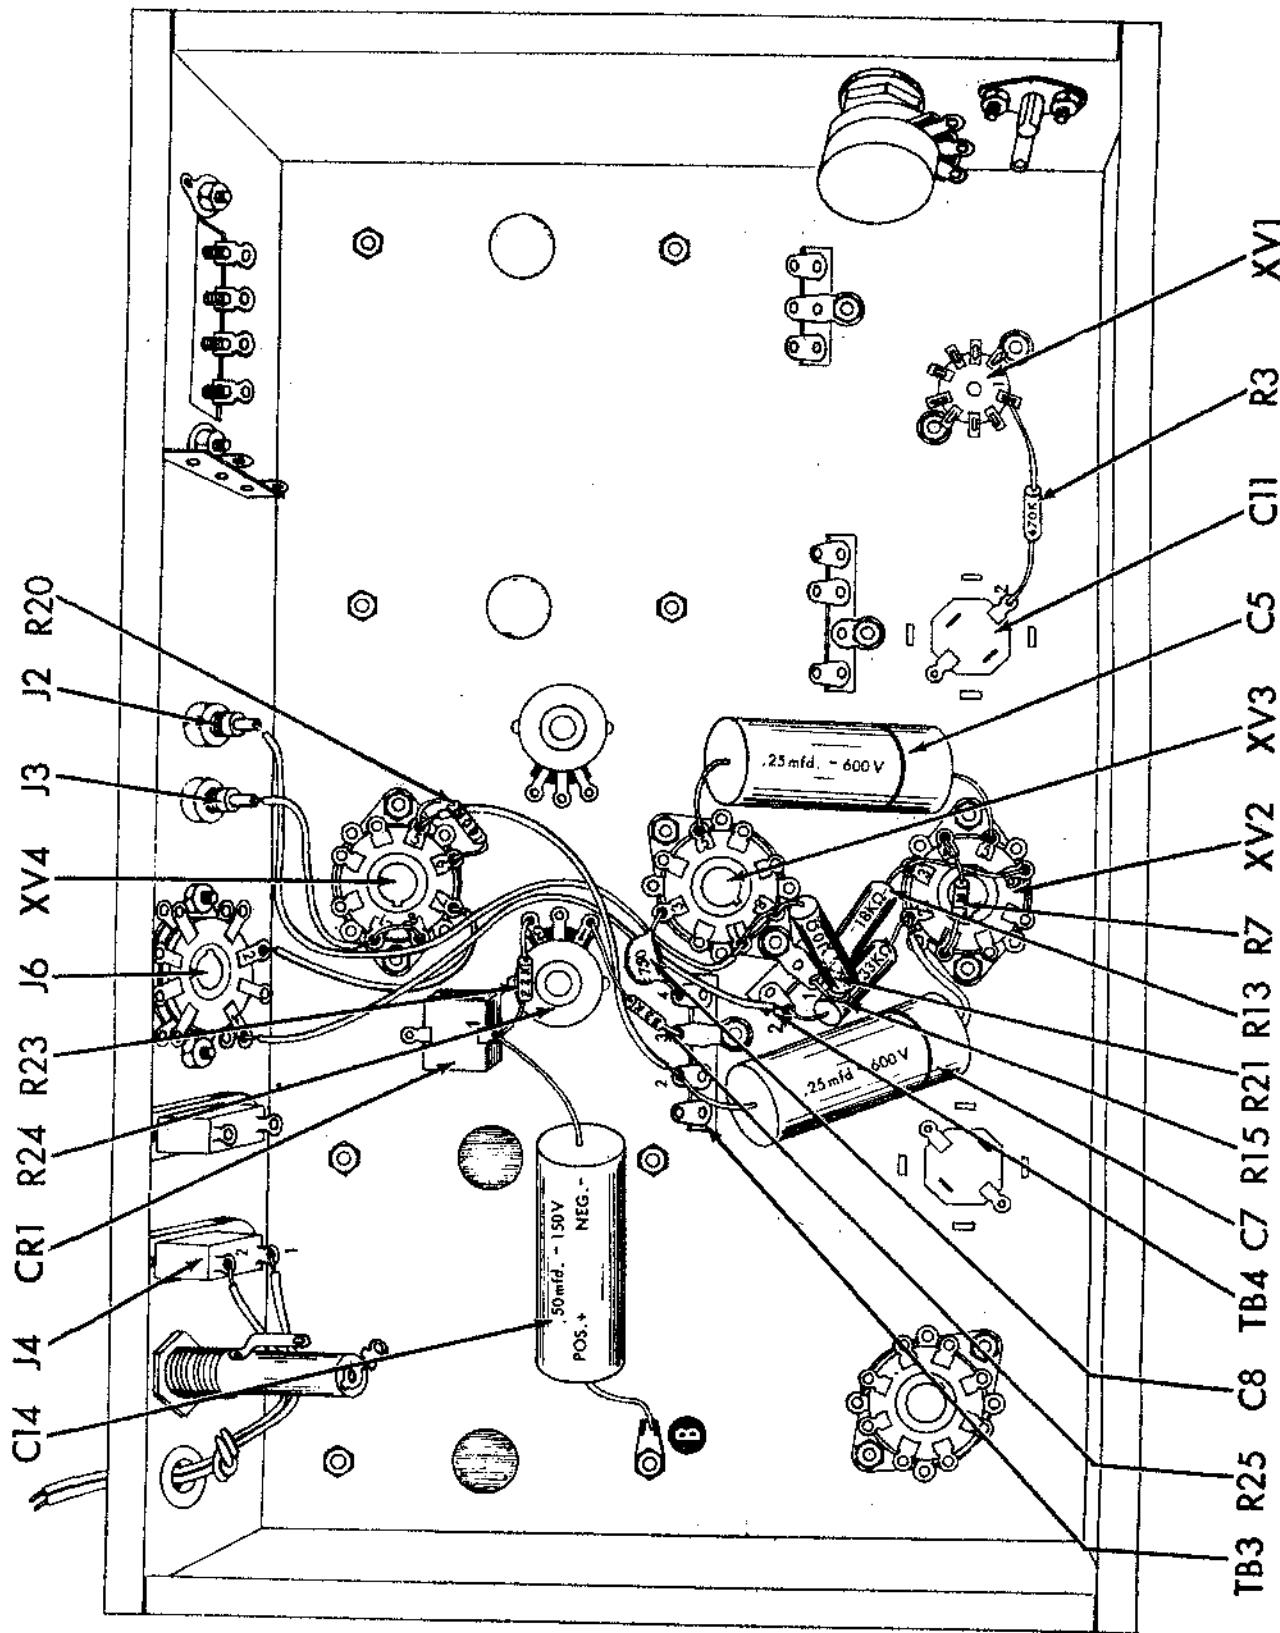

Fig. 5
1. () Fig. 5. Connect a 470K Ω (yellow, violet, yellow, gold) 5% resistor, R3, from XV1-1 (S) to C11-2 (S). Cut leads to 1". Use 3/4" spaghetti on each lead.
2. () Fig. 5. Connect a .25mf, 600V (red, green, yellow, white, blue) molded capacitor, C5, from XV3-5 (S) to XV2-5 (S). Cut leads to 1".
3. () Fig. 5. Connect an 18K Ω (brown, grey, orange, gold) 5% resistor, R13, from TB4-1 (C) through XV2-3 to XV2-6 (S). Use a 5/8" piece of spaghetti between XV2-3 and XV2-6. Cut the lead going to TB4 to 3/4" and the other lead to 1 1/2".
4. () Fig. 5. Connect a 1 meg (brown, black, green, silver) 10% resistor, R7, from XV2-1 (S) to XV2-4 (S). Cut leads to 1/2".
5. () Fig. 5. Connect a 33K Ω , 1W (orange, orange, orange, gold) 5% resistor, R15, from XV2-2 (C) to TB4-2 (C). Cut leads to 1 1/4".
6. () Fig. 5. Connect a .25mf, 600V (red, green, yellow white, blue) molded capacitor, C7, from XV2-2 (S) to TB3-2 (C). Cut one lead to 3/4" and the other lead to 1 1/2". Use 1" spaghetti on the longer lead and connect this to XV2-2.
7. () Fig. 5. Connect a 3/4" bare wire from XV3-1 (C) to XV3-8 (C).
8. () Fig. 5. Connect a 10 Ω , 1% resistor, R21 from XV3-8 (S) to TB4-1 (S).
9. () Fig. 5. Connect a 4 1/2" green lead from TB3-2 (S) to XV4-5 (C), from R24-3 (S) to CR1-1 (C). Cut leads to 3/4".
10. () Fig. 5. Connect a 33K Ω , 1/2W (orange, orange, orange, silver) 10% resistor, R25, from R24-1 (S) to TB3-3 (S). Cut leads to 3/4".
11. () Fig. 5. Connect a 22K Ω (red, red, orange, silver) 10% resistor, R23, from R24-3 (S) to CR1-1 (C). Cut leads to 3/4".
12. () Fig. 5. Connect a 50mf, 150V electrolytic capacitor, C14, from CR1-1 (S) to ground lug "B" (S). Cut the lead on the + side to 1 3/4" and connect this to the ground lug. Cut the other lead to 1 3/4" and cover it with a 1 1/2" piece of spaghetti before connecting it to CR1.
13. () Fig. 5. Connect a 750mmf disc capacitor, C8, from TB3-4 (S) to XV3-3 (S).
14. () Fig. 5. Connect a 6" red lead from TB4-2 (S) to J6-4 (S).
15. () Fig. 5. Connect a 7" yellow lead from XV3-1 (S) to J2 (S).
16. () Fig. 5. Connect a 180K Ω (brown, grey, yellow, gold) 5% resistor, R20, from XV4-6 (S) to XV4-5 (S). Cut leads to 1/2".
17. () Fig. 5. Connect a 3" black lead from XV4-7 (S) to J6-2 (S).
18. () Fig. 5. Connect a 3/4" bare wire from XV4-8 (S) to XV4-1 (C).
19. () Fig. 5. Connect a 2 1/2" black lead from XV4-1 (S) to J3 (S). Pass the line cord through the 3/8 grommet at the rear of the chassis. Knot the line cord inside the chassis 2 1/2" from the end. Connect one lead to J4-1 (S) and the other lead to J4-2 (S).
20. () Fig. 5. Pass the line cord through the 3/8 grommet at the rear of the chassis. Knot the line cord inside the chassis 2 1/2" from the end. Connect one lead to J4-1 (S) and the other lead to J4-2 (S).